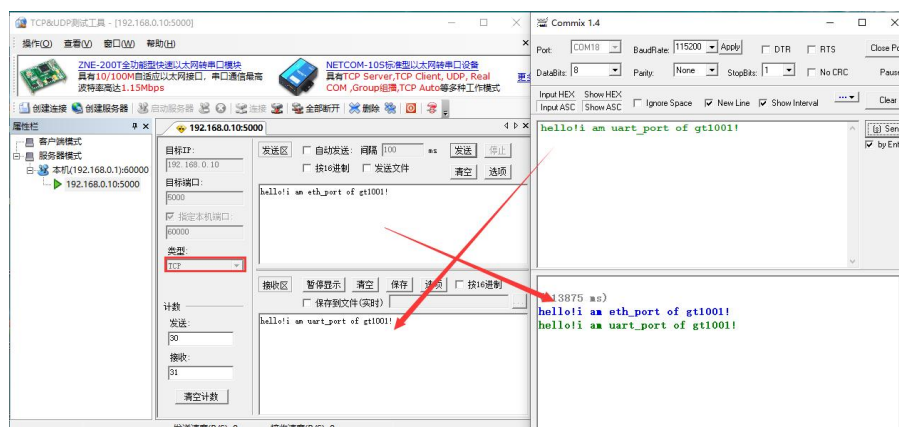

Figure 6-14 TCP Client Mode Communication Interface
4) that module, as a client, actively send a connection application to the computer to establish a connection, and aft the connection is opened, communication can be directly carried out, The interface is shown in Figure 6-14.